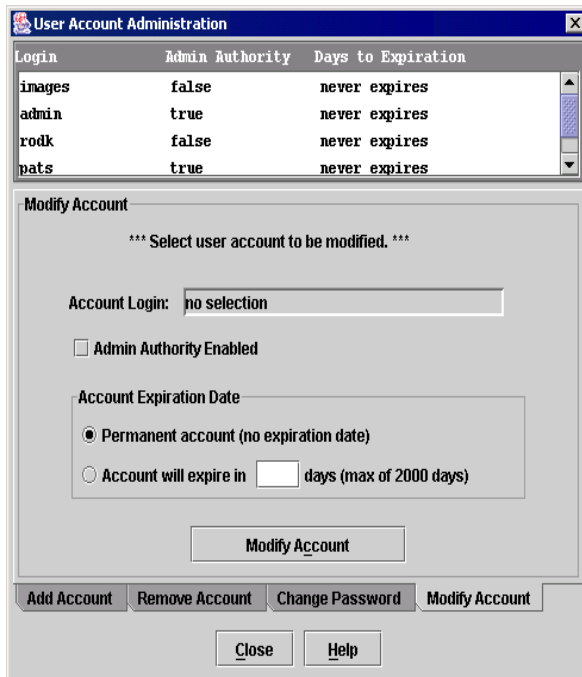

Figure 30 User Account Administration dialog — Modify Account tab page
2. Click the **Modify Account** tab to open the Modify Account tab page shown in Figure 30.